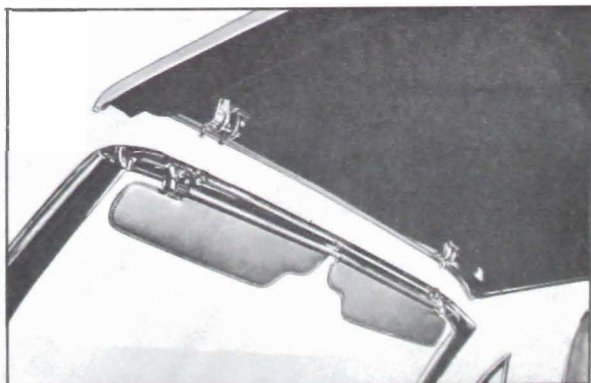

Figure 7-6—Disengage top from Header
3. Raise front of top (Figure 7-6) to disengage front roof rail from windshield header.